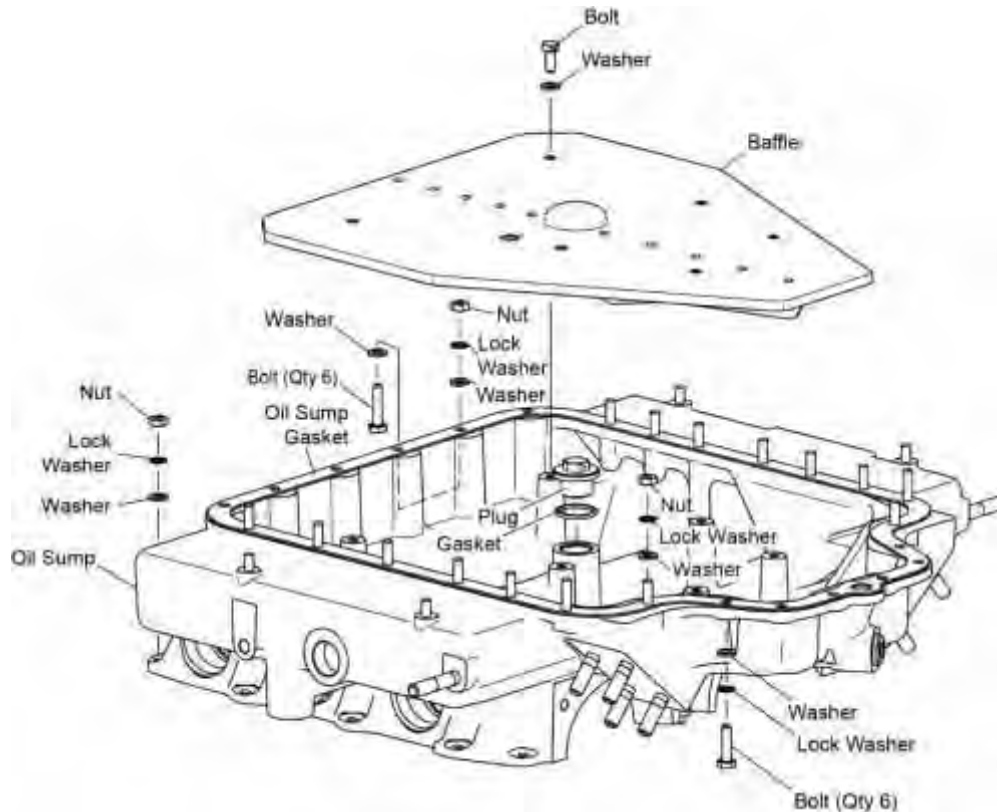

Figure 8
- D. Remove the six bolts, six nuts, six lock washers, 12 washers, and six nuts (Figure 8) from the accessory housing end of the oil sump. Discard the lock washers.
- F. While one person holds the oil sump, remove the 15 nuts, 15 lock washers, and 15 washers from the left and right sides of the oil sump (Figure 8).
NOTICE: If studs are not already installed on the oil sump, install new studs in their corresponding location per Figure 8.
- F. Install a new oil sump gasket in the oil sump groove (Figure 8).
- H. Examine all of the oil sump fasteners identified in Figure 8, that were to be kept separate when the oil sump was removed. Make sure the bolts, studs, and nuts are not damaged are intact and have no stripped threads. Replace any damaged or stripped fasteners.
- I. While one person holds the oil sump, install the 15 nuts, 15 new lock washers, and 15 washers on the left and right sides of the oil sump (Figure 8).